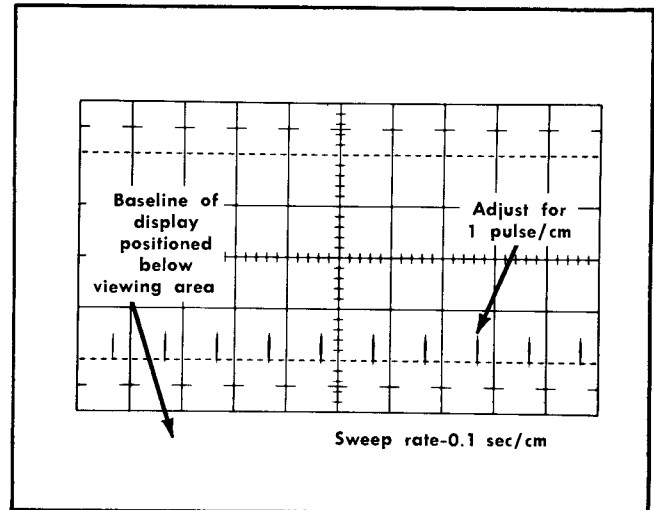

Fig. 5-50. Test oscilloscope display for setting triggering pulse repetition rate to 10 cps.
f. Adjust the pretrigger pulse generator Repetition Rate control for 1 pulse/cm in the test oscilloscope display (see Fig. 5-50). This sets the repetition rate at 10 cps.